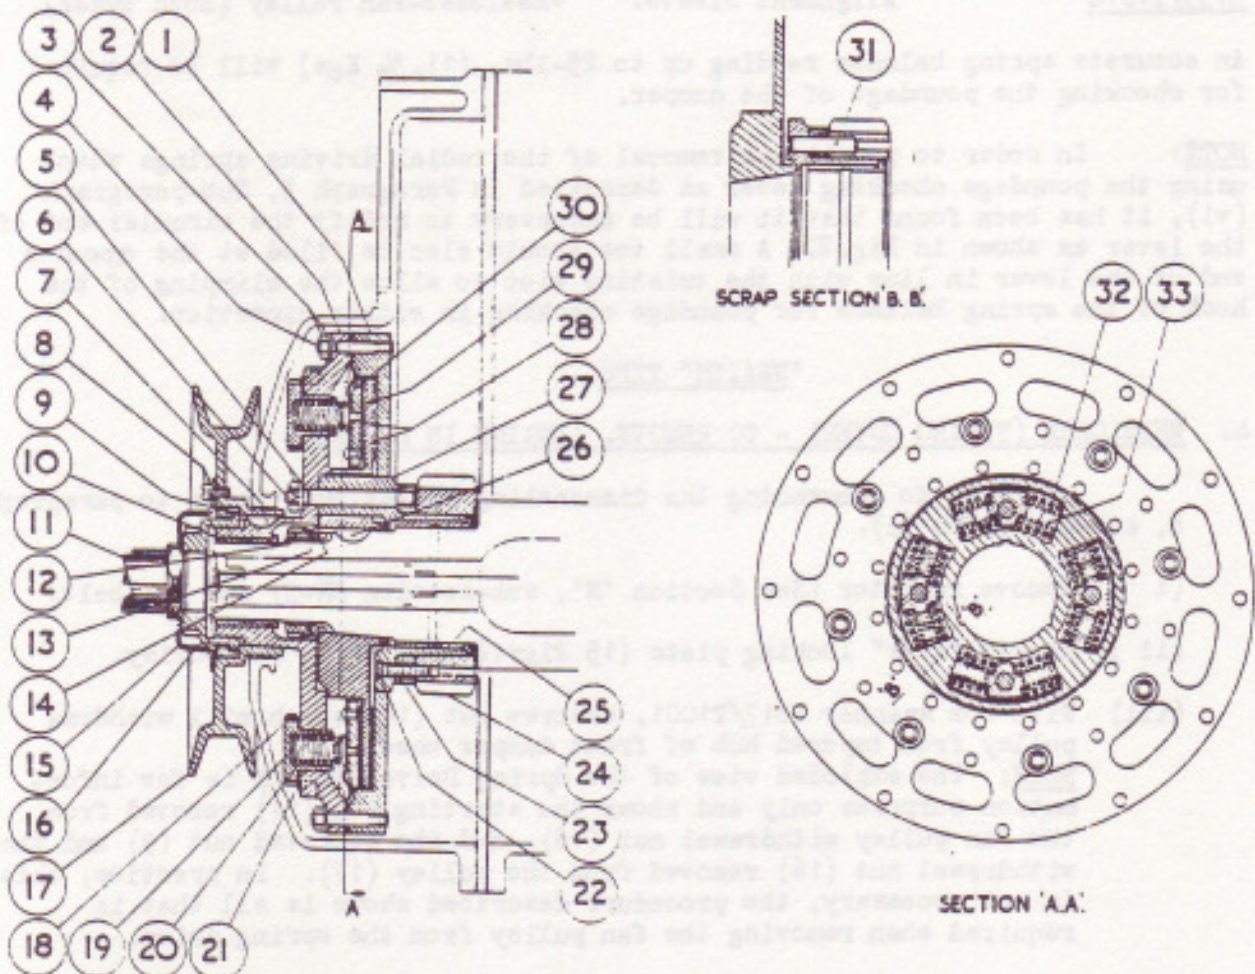

FIG. 21. SECTION - SPRING DRIVE ("WRAITH" TYPE.)
the crankshaft as high as possible, the weight of material rigidly attached to the Crankshaft at this point must be and is kept to a minimum. It will be noted that this is the friction drum only (29 Fig. 21 and 20 Fig. 28). On both types of Spring Drives, the Pinion, Fan Pulley, Damper Flywheels and Starter Dog, are the floating mass parts for inertia effect.
THE SPRING DRIVE provides a flexible coupling between the Crankshaft and the Crankshaft Pinion, its function being to maintain a constant pressure at the driving teeth irrespective of the variations in load - as imposed by the camshaft. The pinion is driven by radially disposed Coil Springs (32 & 33 Fig. 21 and 24 & 25 Fig. 28). These springs are interposed between Dog members which are attached to the Crankshaft and the Pinion.
Notation List for Fig.21.
(ii) Remove "star" locking plate (15 Figs.21&22) from fan pulley.
- (ii) Remove the four nuts (5 Fig 21), then the twelve 2-BA nuts (3) from rim of damper wheel. Remove front damper wheel (2), taking care not to lose any of the eight damping springs (20) and adjusting washers (19) if the latter are fitted.
- (iii) Remove presser plate (30) and cotton duck friction washer adjacent to it.
- (iv) Bend back tabs of lockwasher (13), and with the serrated spanner, 3759/T1007, remove nut 12 (R.H. thread) from crankshaft. Remove the plain washer (14).
- (v) Attach the extractor, 1617/T1003 to the four hub studs (6 Fig. 21) and remove "rear half" of spring drive complete with pinion from crankshaft.
- c) Attach the poundage checking lever, 1617/G1003 to two of the four 1/4" B.S.F. hub studs and take the strain one way which will ease the tension on four pairs of springs and make removal of them easier. It should be noted that the driving springs are retained in position at one end only (See "Section A.A." Fig. 21) and thus require to be compressed before they can be extracted. To effect this, the blade of a suitable screw-driver should be inserted between a spring and the corresponding driving dog of the friction drum (29) and the spring compressed and prised upwards until it is clear of the friction drum. Take care not to distort springs during their removal.
NOTE: The radial driving springs (32 & 33 Fig. 21) must be omitted during these operations.
- (vii) Fit presser and spring plate assembly on to rear damper wheel. NOTE: If it is found that an adjusting washer or washers (19) have been fitted behind each of the damping springs (20), then they should be removed.
- (viii) With damping springs in position on front damper wheel, fit it to rear damper wheel. The springs should be smeared with a soft type of grease to keep them in position in the hollow plugs (18).
- (ix) Tighten up the four nuts of the hub studs (6 Fig. 21) and then evenly tighten up nuts of the twelve rim studs and leave friction washers under compression for about twelve hours if time permits.